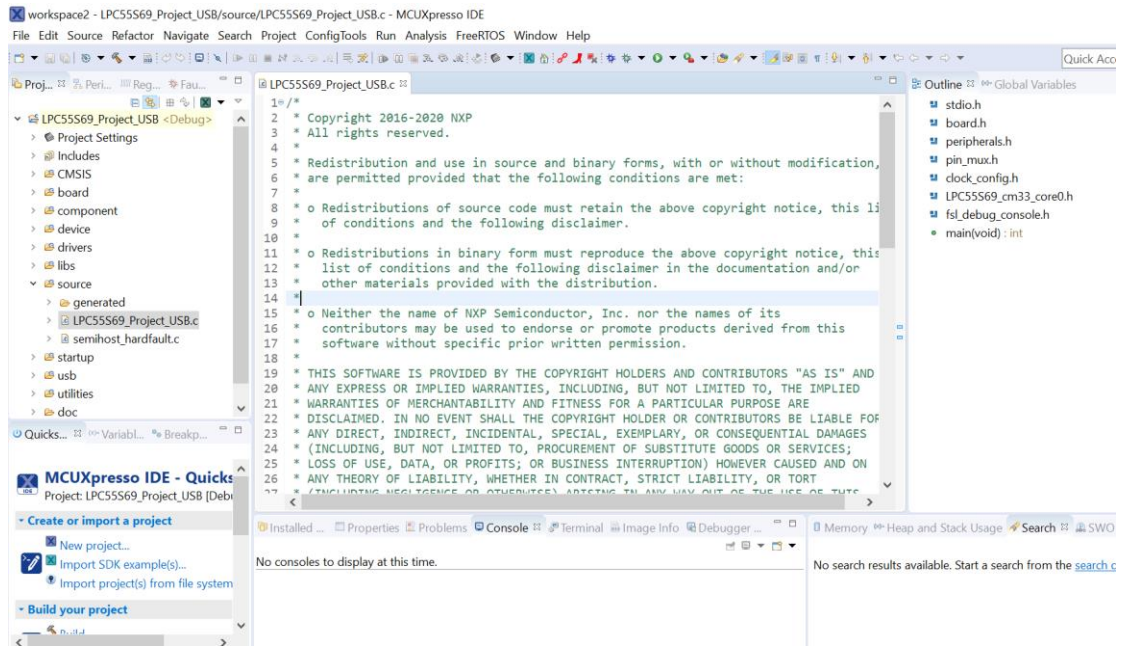

Figure 4
4. Figure 4 is the created project.